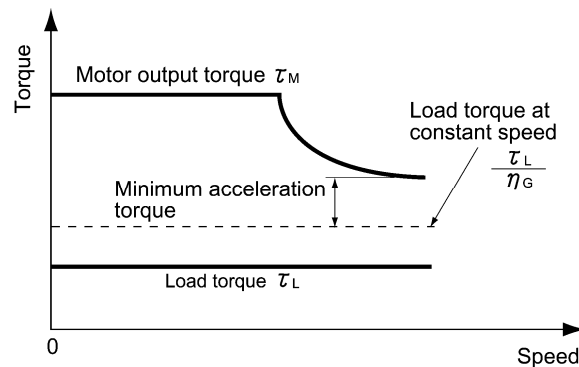

Figure 7.4 Example Study of Minimum Acceleration Torque
- 2) Calculate the minimum acceleration torque (See Figure 7.4)